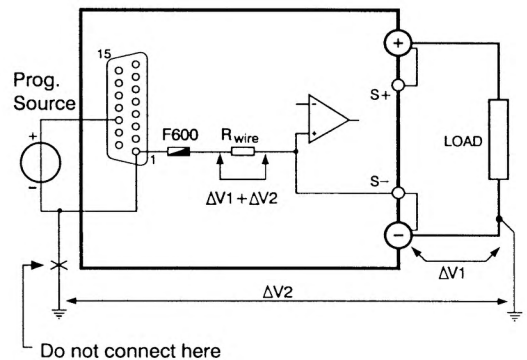

fig. 3 - 19 unwanted programming offsets
- Check fuse F601 in series with Ø (pin 8), see fig. 3 - 18. To check the fuse (F601) measure the resistance between Ø and the minus output, an open circuit means a blown fuse. F601 = 650 mA.